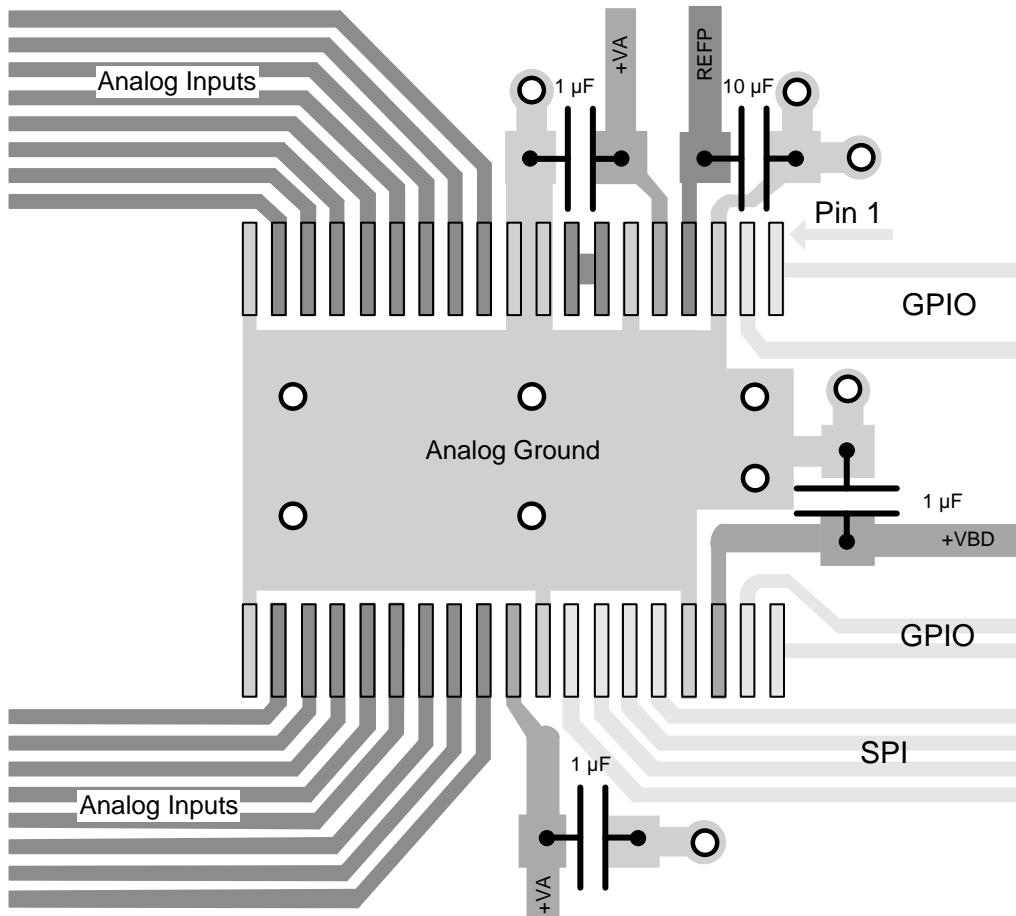

Figure 64. Layout Example
- The power sources must be clean and properly decoupled by placing a capacitor close to each of the three supply pins, as shown in Figure 64. To minimize ground inductance, ensure that each capacitor ground pin is connected to a grounding via by a very short and thick trace.
- The REFP pin requires a 10- μ F ceramic capacitor to meet performance specifications. Place the capacitor directly next to the device. This capacitor ground pin must be routed to the REFM pin by a very short trace, as shown in Figure 64.
The full-power bandwidth of the converter makes the ADC sensitive to high frequencies in digital lines. Organize components in the PCB by keeping digital lines apart from the analog signal paths. This design configuration is critical to minimize crosstalk. For example, in Figure 64, input drivers are expected to be on the left of the converter and the microcontroller on the right.